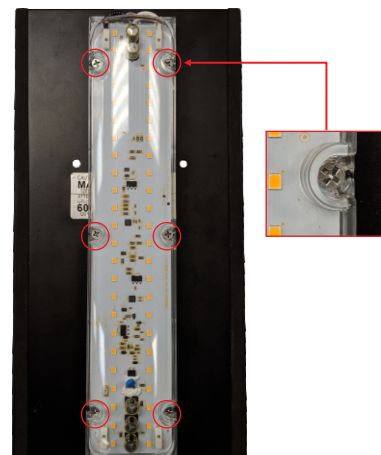

Figure 3
3. Secure the LED Engine to the luminaire mounting plate using the provided 6-20 x3/8" Self Drilling Screws (B). See Figure 3.